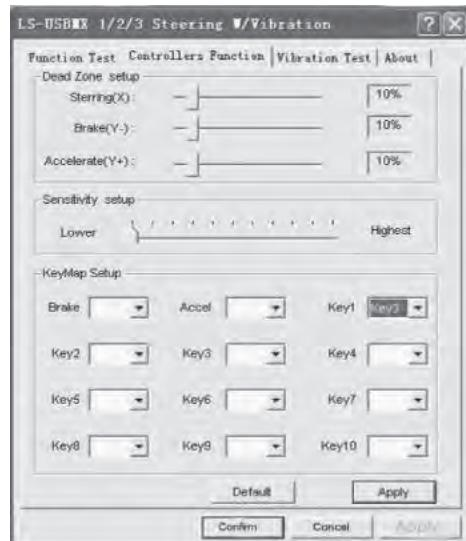

Fig. 8
- Choose Controllers to set axes and keys (see Fig. 8).
- Dead Zone setup: controller will not respond to a slight touch of acceleration pedal (Accelerate Y+), or brake pedal (Brake Y-), or turns of the wheel (Steering X), therefore necessary adjustments should be made by cursors (Fig. 8);
to pressing of pedals and turns of the wheel will be, therefore necessary adjustments within Lower to Higher range should be made by cursors (Fig. 8);
- KeyMap Setup reprograms functional keys: there should be chosen new necessary assignment against the key designation (Fig. 8);
- after installation of the driver, the controller can be automatically centered by pressing MODE button ⑥.